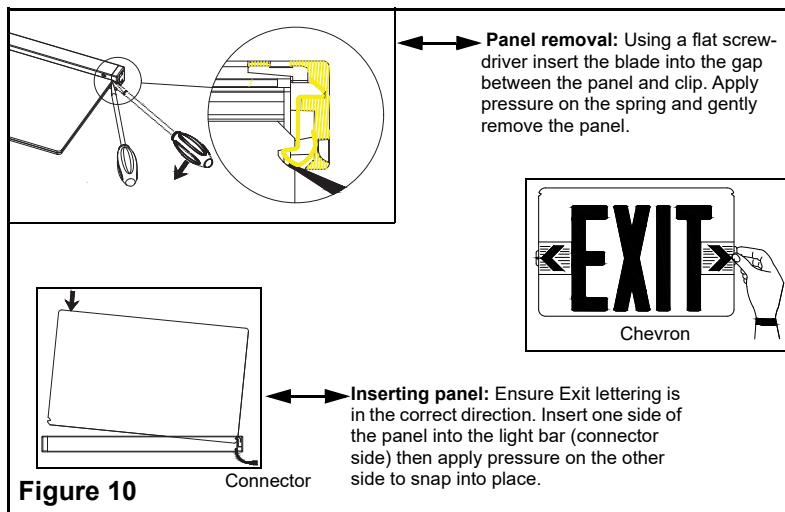

Figure 10
14. Choose the appropriate EXIT panel and insert into the light bar (fig.10).
15. If chevrons are needed, remove the film only (fig.10).
16. If no chevron is needed, remove film and chevron (fig.10).
- This unit comes with a (3) three year limited warranty.